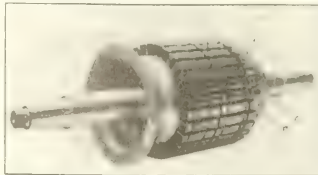

FIG. 7.—ARMATURE CORE.
After boring and turning to proper diameter, the casting (M) has the keyways (K) and (J) cut, to prevent turning of the core and commutator, respectively. The core is now ready to be built. It consists of iron punchings, a few mils thick, assembled on the casting (M), as shown in Fig. 7. The keyway and key serves also to line up these punchings or laminations so that the slots (T) will be properly formed. After the proper amount of laminations are put in the spider, they are put under a pressure of about forty tons, the front end bell (F) put into place, and the ring nut (R) screwed on the threads (H), which holds all in place and under pressure.
While the core is being built up there are placed at certain positions a lamination with raised ribs, so as to leave openings in the core, and so that it will not be of one solid mass. The position of these special laminations are shown at D, Fig. 7. These openings or ducts communicate with the
commutator assembled ready to press on the spider and half of a diametrical cross section. The commutator is made up of a certain number of bars (A), according to the number of slots (T) in the core (Fig. 7), and the number of coils placed in these slots. Each bar (A) is practically the same shape, as shown in the cross sections and about  $\frac{3}{4}$  in. thick, and each is insulated from